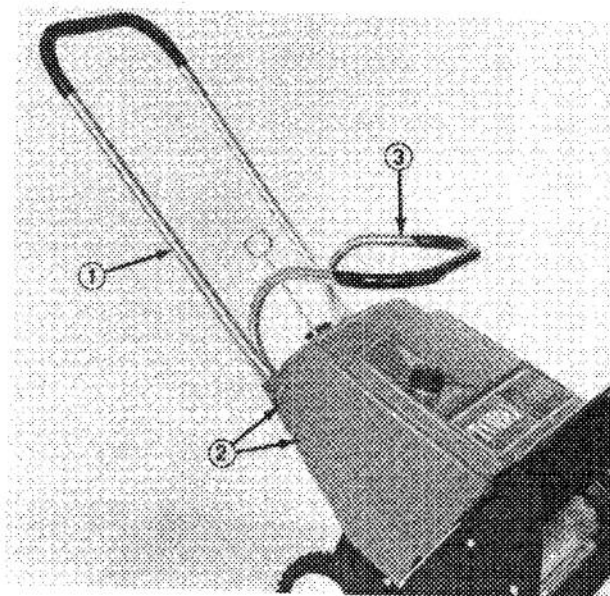

Figure 3
2. Slide upper handle down between lower handle and shroud (Fig. 3). Line up holes in shroud, upper handle, and lower handle (Fig. 3).